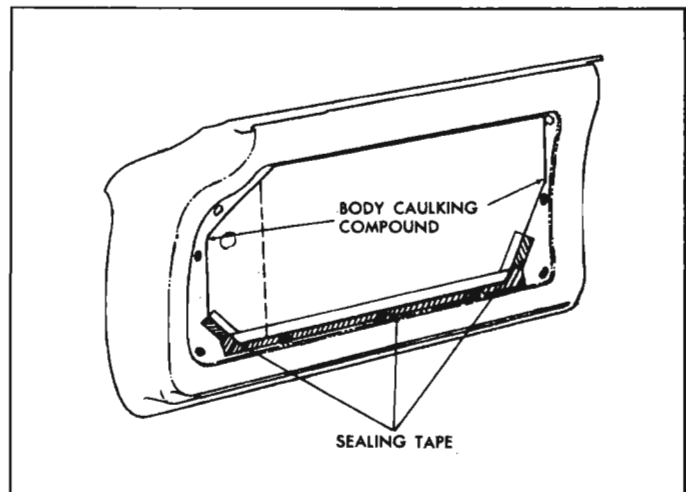

Fig. 10-41—Partial Removal of Front Door Water Deflector
2. Remove strips of waterproof body tape securing lower corners of deflector to inner panel (figs. 10-41 and 10-42).